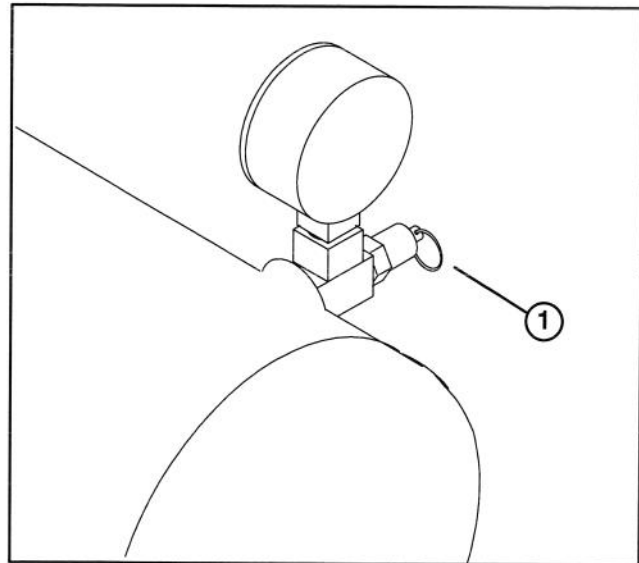

Figure 6
3. Pull ring on pressure relief valve to relieve air pressure in the tank (Fig. 6).